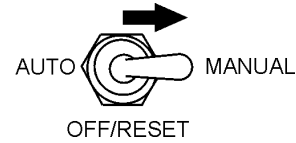

Figure 46. Auto-Off/Reset Manual Switch (Manual Position)
1. Place the **Auto-Off/Reset Manual Switch** in the **MANUAL** position to start the engine (Figure 46).